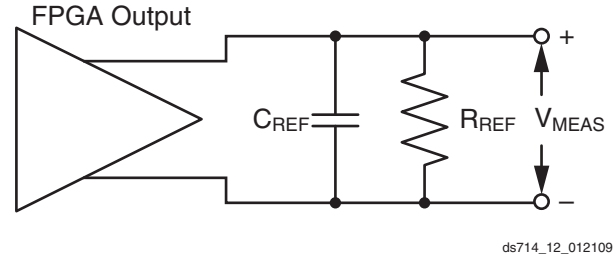
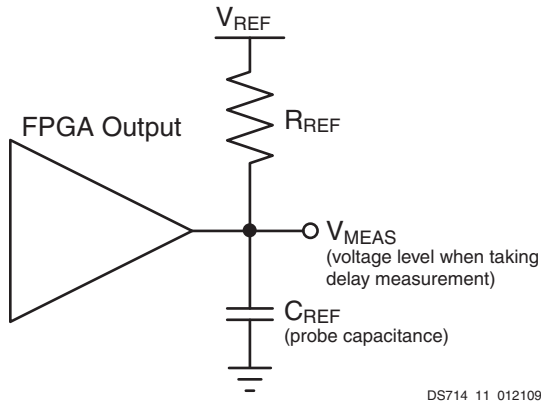

Figure 12: Differential Test Setup
Figure 11: Single Ended Test Setup
5. This is an input voltage reference that bears no relation to the  $V_{REF} / V_{MEAS}$  parameters found in IBIS models and/or noted in Figure 11, page 35.
Output delays are measured using a Tektronix P6245 TDS500/600 probe (< 1 pF) across approximately 4" of FR4 microstrip trace. Standard termination was used for all testing. The propagation delay of the 4" trace is characterized separately and subtracted from the final measurement, and is therefore not included in the generalized test setups shown in Figure 11 and Figure 12.